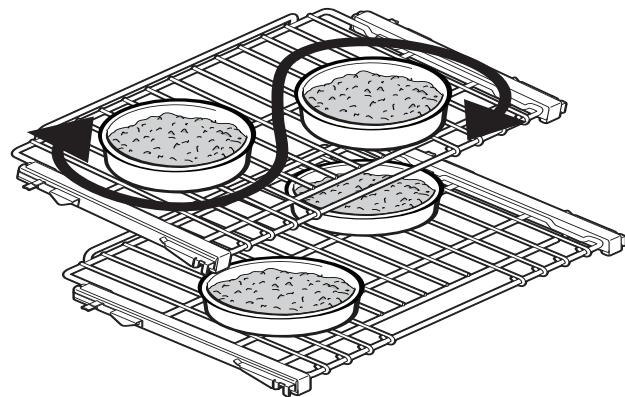

Figure 26: Pan Placement
- Stagger bakeware so that one is not directly above another. Allow 1½" (38 mm) above and below each pan (see *Figure 26*).